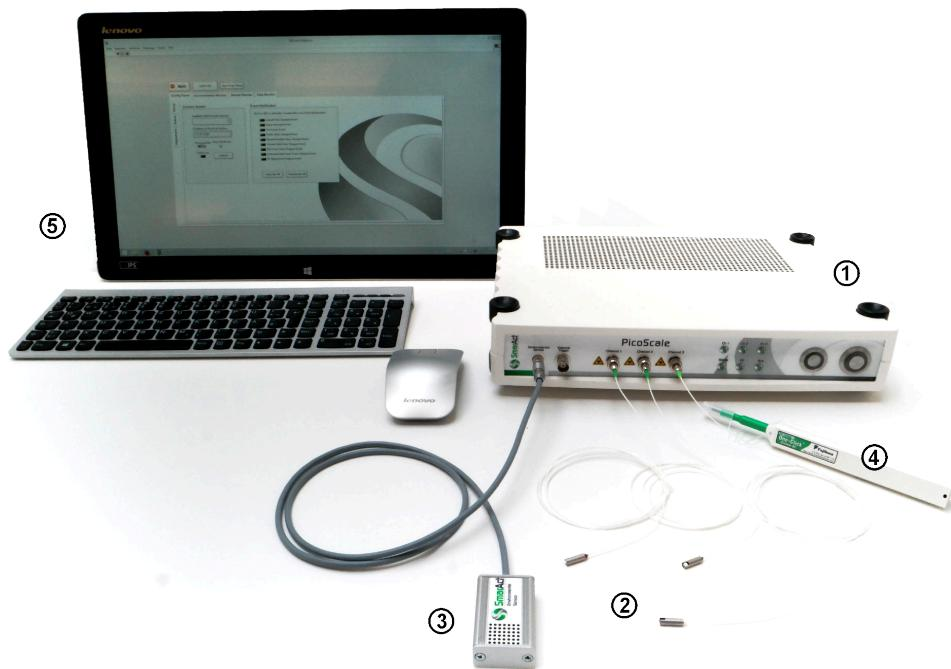

Figure 5.1: Basic accessory, consisting of (1) **PICOSCALE** Controller, (2) sensor heads, (3) Environmental Module, (4) One-Click cleaner and (5) User PC.
This chapter provides an introduction to the **PICOSCALE** Hardware. The basic accessories are shown in figure 5.1. The main component is the **PICOSCALE** Controller. It is available as a table-top version (1) and a 19" rack version. Up to three measurement heads (2) and an environmental module (3) can be connected to the controller. Typically each **PICOSCALE** system is shipped with some additional accessory (4) like a One-Click cleaner pen, head adapters, mirror mounts, etc. Finally, a PC (5) is required. It is not part of the **PICOSCALE** system and must be provided by the user.